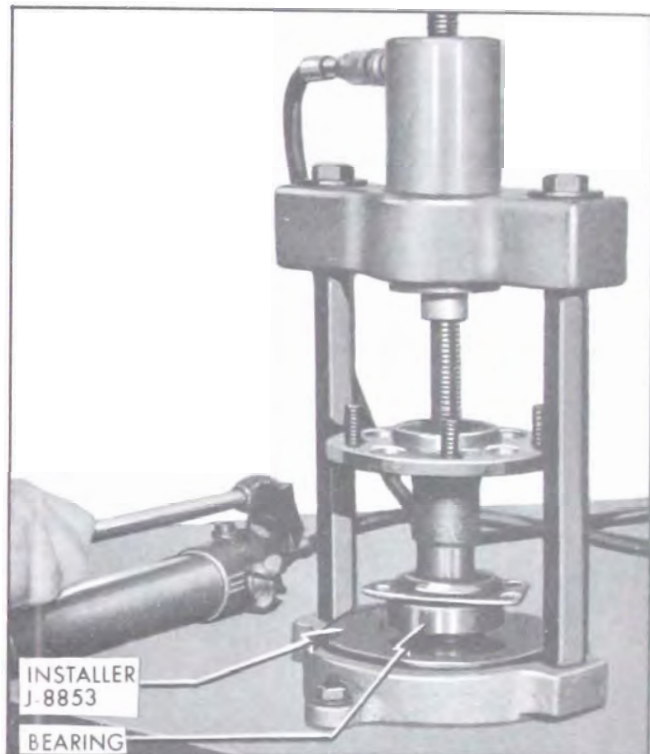

Figure 6-8—Installing Axle Shaft Bearing
3. Press new axle shaft bearing against shoulder on axle shaft using Installer J-8853 with Holder J-6407. See Figure 6-8. **CAUTION:** Retainer plate which retains bearing in housing must be on axle shaft before bearing is installed; retainer gasket can be installed after bearing.